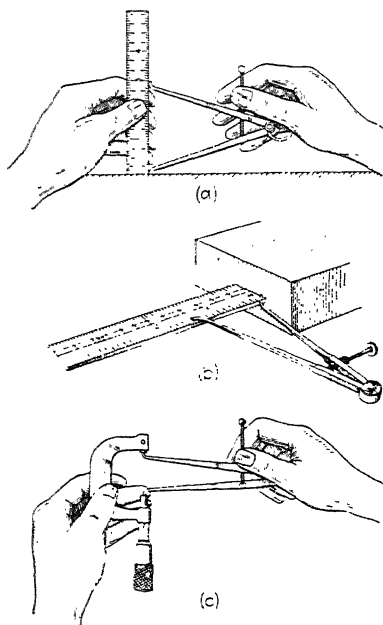

FIG. 150.—For setting or for reading the measurement of an inside caliper.
**158. Measuring a Hole.**—The size of a hole is measured with an inside caliper, and the measurement may be read on a scale as shown (*a* and *b*, Fig. 150). This is all right for the roughing cut, but when accuracy is required it is better to use a micrometer to read the size (see *c*, Fig. 150).